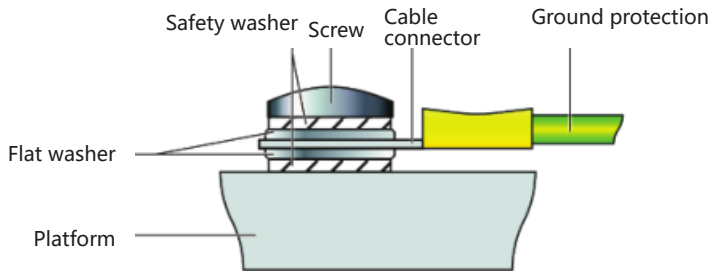

FIG. 7 Grounding protection diagram
4. Grounding protection for connection, as shown in Figure 7: